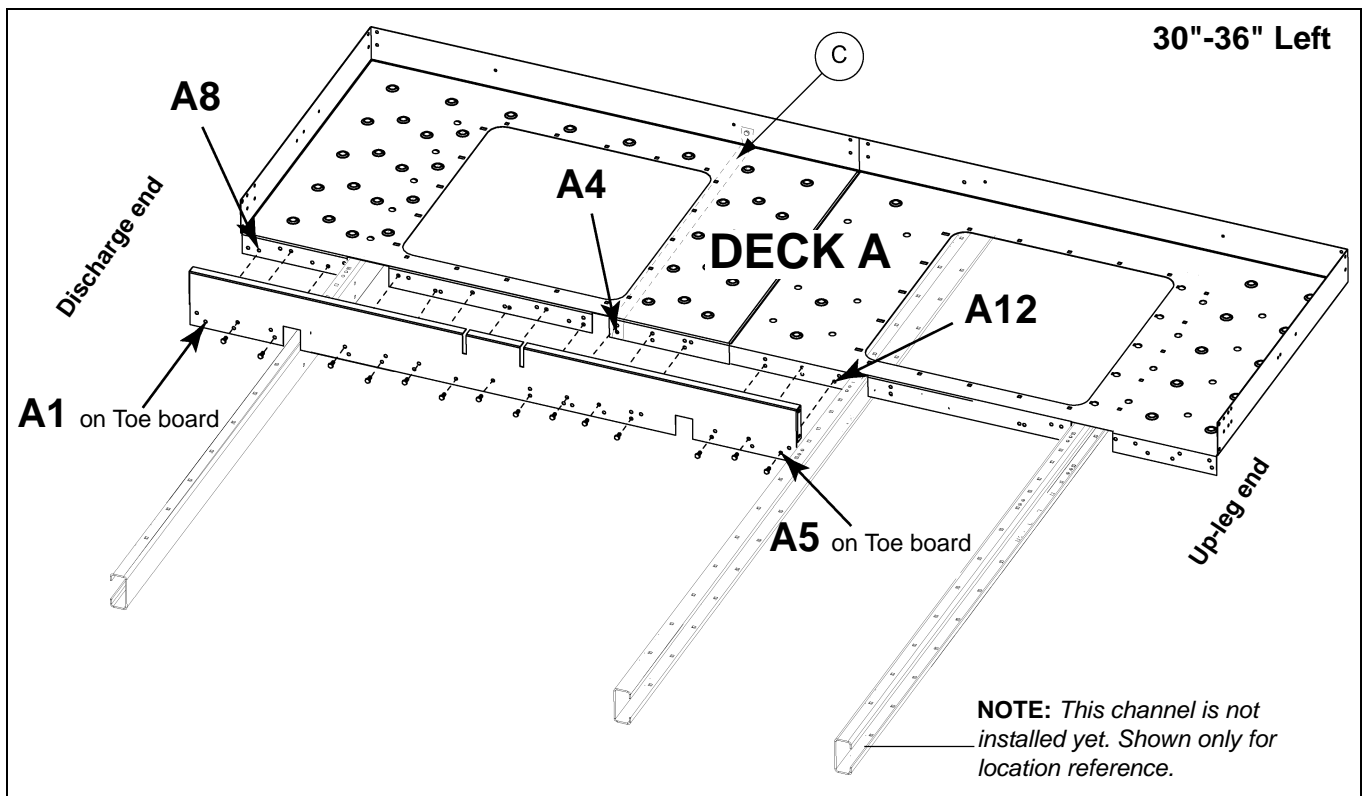

Figure 9I
NOTE: At this time, the head platform hatch deck support (HP36HDS) (C) should be installed **UNDER** Deck A. Line this up with hole **A4** on the deck flange near hatch opening and install at the same time attaching deck to toe board. (See Figure 9I on Page 75.)
5. After aligning the holes as described above, connect all holes between support channel and Deck A using 3/8" x 1" carriage bolts (S-3585) (A) with flange nuts (S-10028) (B).